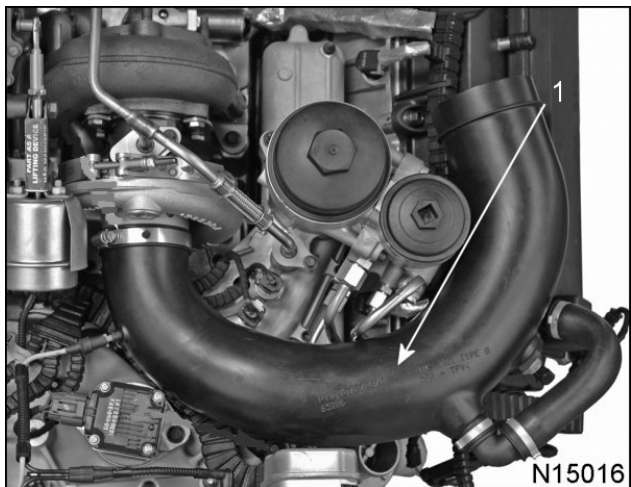

Figure 3
4. Loosen clamp and remove turbocharger inlet pipe (with crankcase breather hose attached) (Figure 3). Cap turbocharger air inlet.